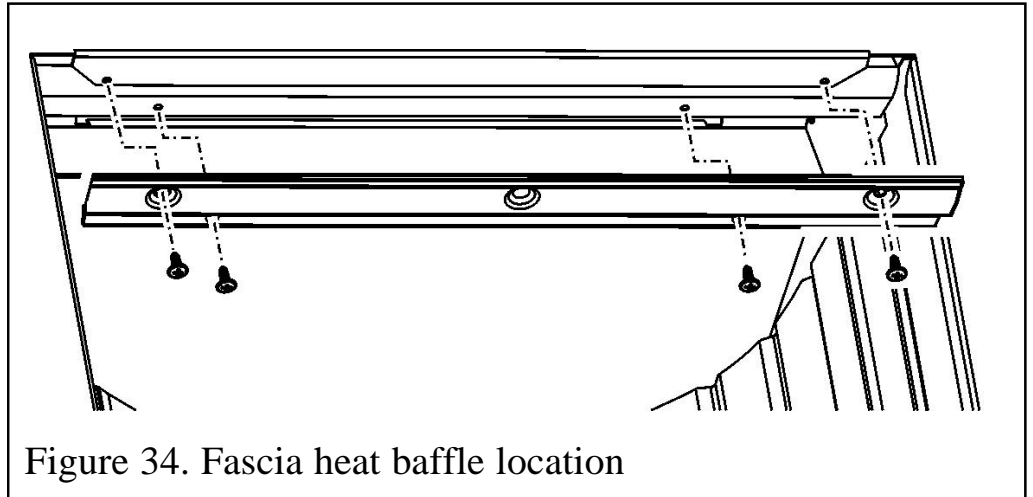

Figure 34. Fascia heat baffle location
- Secure the baffle to the underside of the spillage hood using the two screws supplied (See figure 34).
- Secure the baffle to the fascia using the two screws supplied. The centre hole does not require a screw (See figure 34).